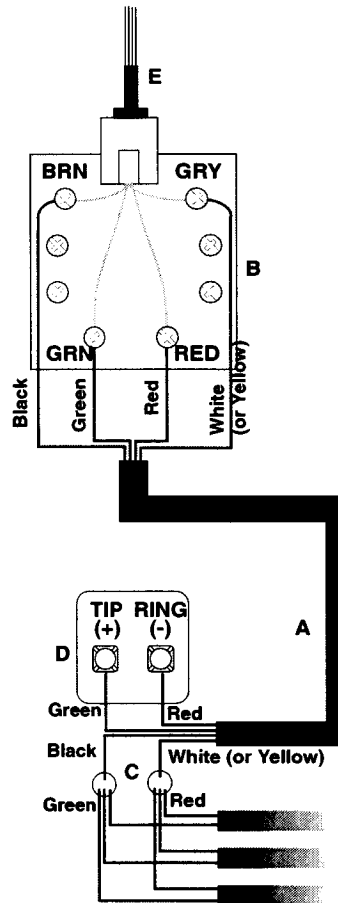

Figure 4. RJ-31X Phone Wiring
1. Run a 4-conductor cable from the TELCO block to the RJ-31X (A in Figure 4).
2. Connect the 4-conductor cable wires to the RJ-31X (B in Figure 4).
3. Disconnect the Green and Red premises phone jack wires from the TELCO block and splice them to the 4-conductor cable Black and White (or Yellow) wires (C in Figure 4). Use weatherproof wire connectors for these splices.
4. Connect the 4-conductor cable Green wire to the TELCO block TIP (+) post and connect the Red wire to the TELCO block RING (-) post (D in Figure 4).
5. Insert the 8-position phone cord plug into the RJ-31X jack (E in Figure 4).
- Check the DB-8 cord connections at the module and RJ-31X jack (see Figure 4). Replace the cord if necessary.
- Disconnect the DB-8 cord from the RJ-31X jack. If the phone still doesn't work, the problem is in the RJ-31X jack wiring. Check the RJ-31X jack wiring and TELCO block wiring (see Figure 4). Replace the RJ-31X jack if necessary.
- If a constant dial tone prevents you from using the phone, there may be one or more polarity-sensitive phones on the premises. Reverse the phone wires connected to the brown and gray wire terminals on the RJ-31X jack (see Figure 4).